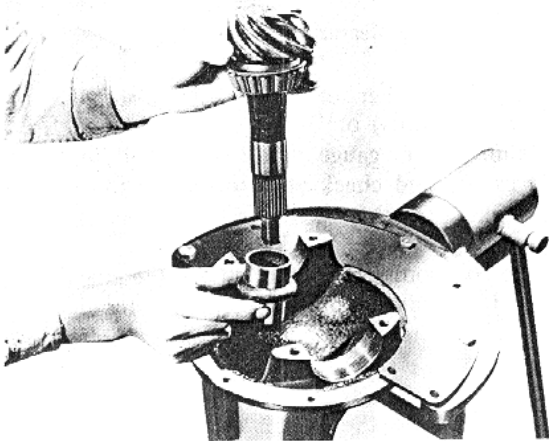

Fig. 9-26 Installing pinion and collapsible spacer
1. Position the pinion assembly in the carrier and install the collapsible spacer as shown in Fig. 9-26.